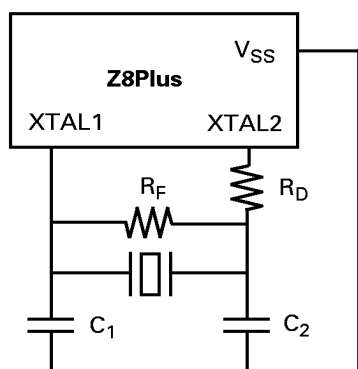
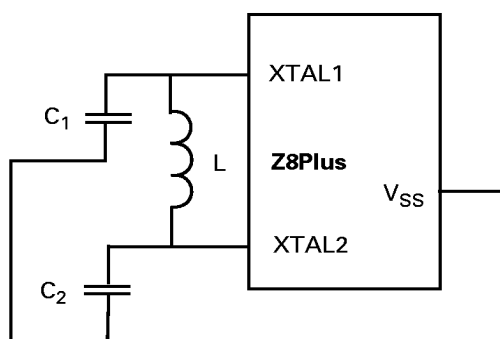
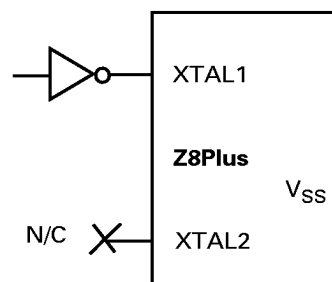

Figure 16. Crystal/Ceramic Resonator Oscillator
Figure 17. LC Clock
Figure 18. External Clock
Crystals and ceramic resonators (Figure 16) should exhibit the following characteristics to ensure proper oscillation:
Depending on the operation frequency, the oscillator may require additional capacitors, C1 and C2, as illustrated in Figure 16 and Figure 17. The capacitance values are dependent on the manufacturer’s crystal specifications.
Figure 16, Figure 17, and Figure 18 recommend that the load capacitor ground trace connect directly to the  $V_{SS}$  (GND) pin of the Z8Plus. This requirement assures that no system noise is injected into the Z8Plus clock. This trace should not be shared with any other components except at the  $V_{SS}$  pin of the Z8Plus.
The Z8Plus oscillator can use an inductor capacitor oscillator (LC) network to generate an XTAL clock (Figure 17). The frequency stays stable over VCC and temperature. The oscillation frequency is determined by the equation: